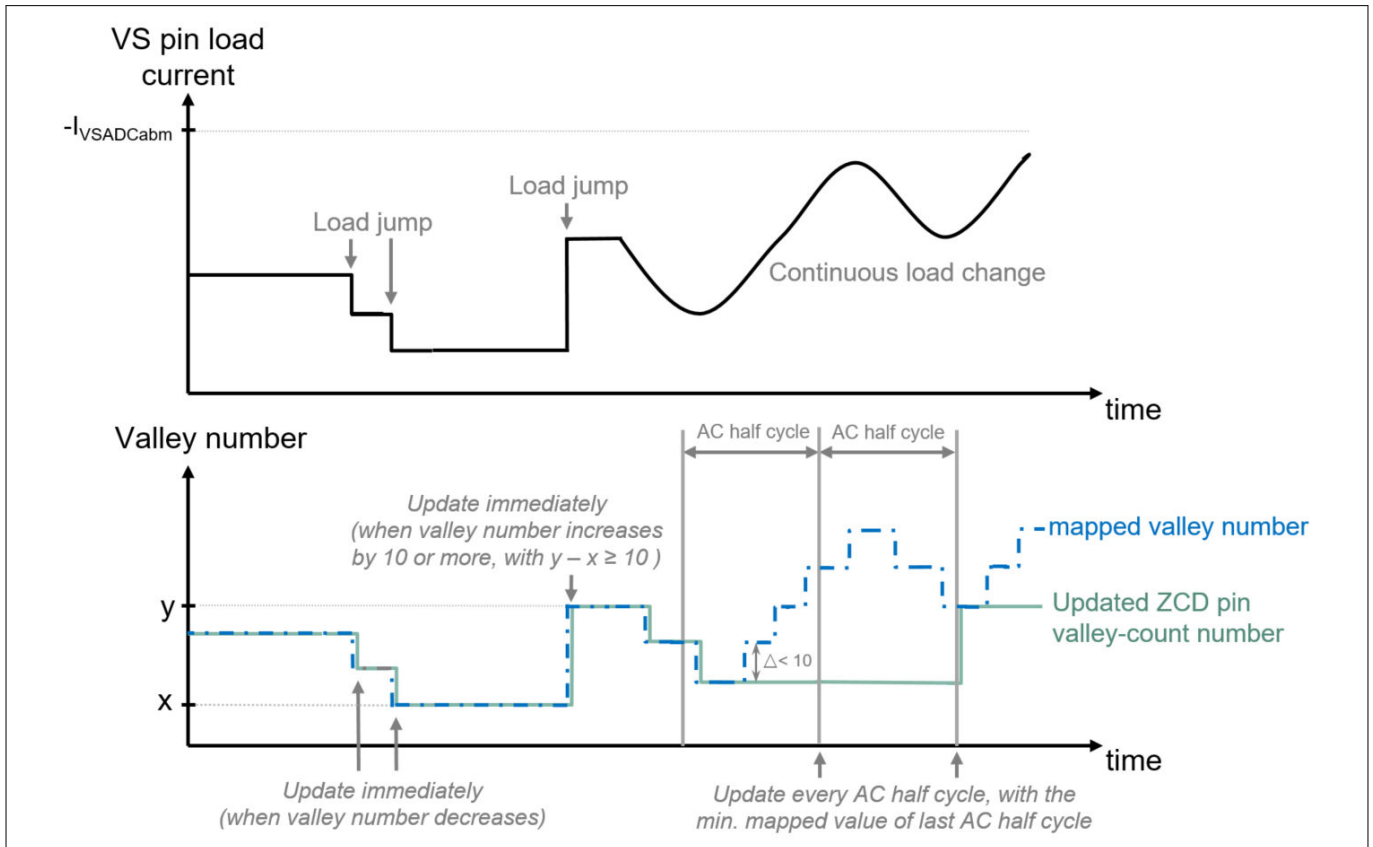

Figure 16 Illustrative example of the QRM valley selection hysteresis mechanism
- To minimize the multiple valley changes within one AC half cycle, ICL8820S updates the ZCD valley-count number once every AC half cycle, based on the lowest mapped valley number from the last AC half cycle, as shown in Figure 16. During each AC half cycle, the controller adjusts the on-time to stay in the selected valley number. In this way, the number of valley jumps is limited to a minimum.
happens immediately. Otherwise, the change happens only at the start of the next AC half cycle, as shown in Figure 16.